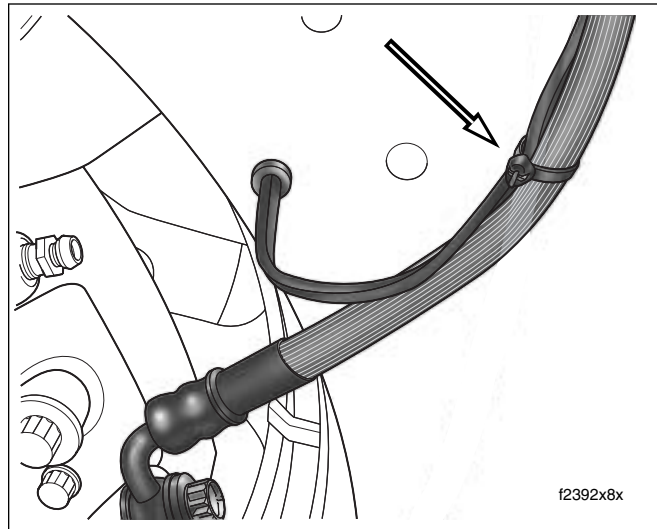

Figure 8-51. Install Cable Strap to Brake Hose
15. Install **new** cable strap to secure front fender tip lamp wires to brake caliper hose. Cut any excess cable strap material. See Figure 8-51.